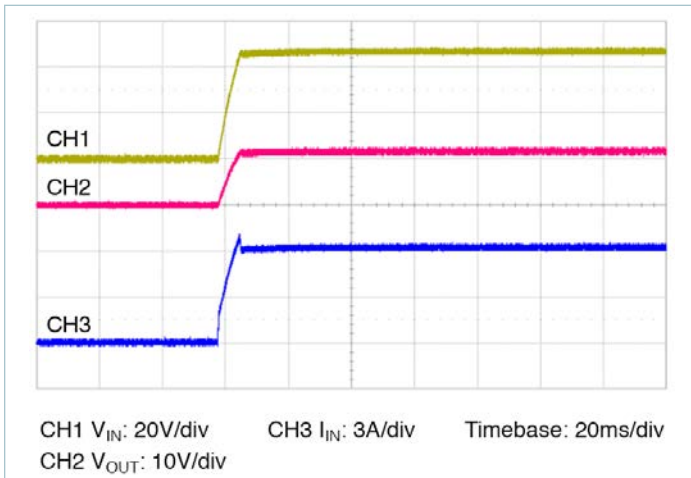

Figure 13 — Start up from application of V_{IN}; VC pre-applied C_{OUT} = 375 μF
- **Normal operation (VC applied prior to V_{IN}):** In this case the controller is active prior to ramping the input. When the input voltage is applied, the VTM module output voltage will track the input (See Figure 13). The inrush current is determined by the input voltage rate of rise and output capacitance. If the VC voltage is removed prior to the input reaching 26V, the VTM may shut down.